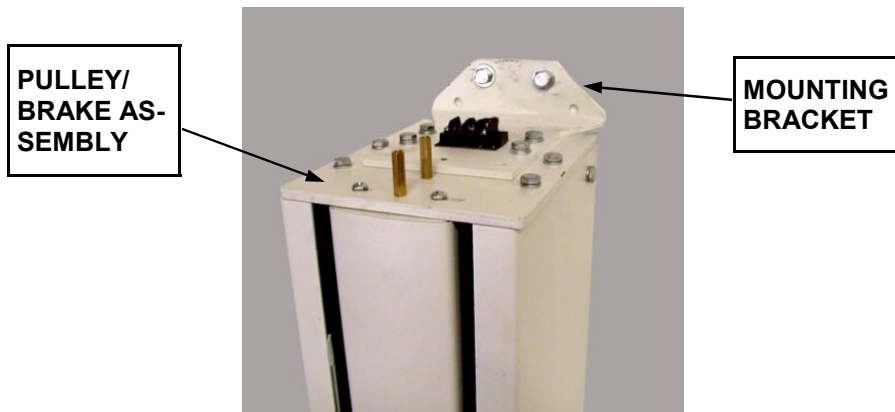

Figure 4. Attaching Wall Mounting Bracket to Pulley/Brake Assembly
4. Attach Wall-Mounting Bracket to Pulley/Brake Assembly using four (4) 1/4-20 x 3/4" hex heads and split washers (see Figure 4).